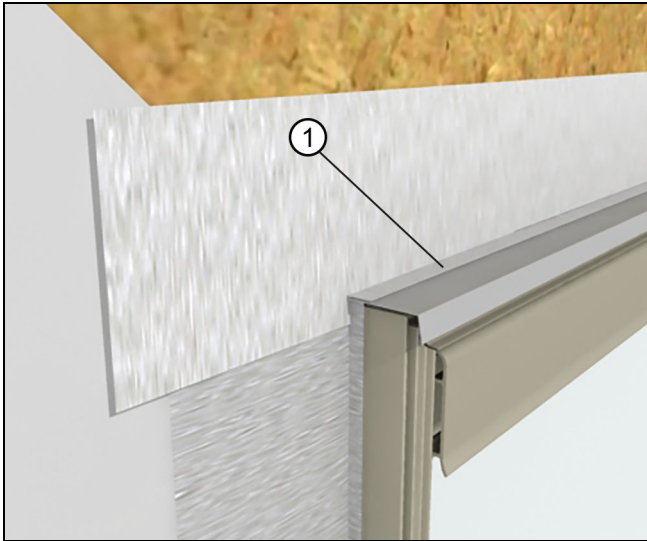

Figure 61
4. Install a layer of flashing over the vertical leg of the rigid head flash and lapped onto the horizontal leg. The flashing should extend past the jamb flashing installed earlier. See Figure 61.